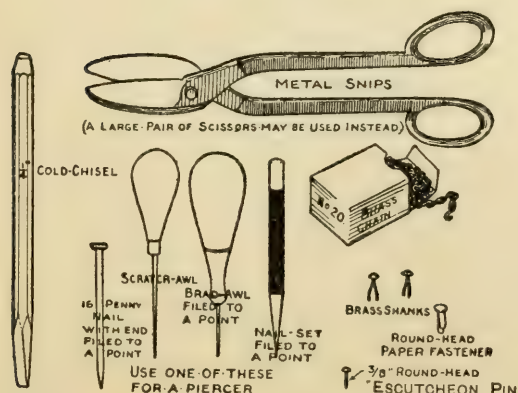

FIG. 278. — Some of the Tools and Materials Required.
Piercing Tool (see Fig. 278)
$\frac{1}{4}$ " Cold-chisel (see Fig. 278)
$\frac{3}{8}$ " Round-head Escutcheon Pins (Fig. 278)
Brass Shanks or Paper Fasteners (Fig. 278)
Box of No. 20 Brass Chain (or Bead Fringe) (Fig. 278)
basswood for the disk. Make it  $5\frac{1}{16}$  inches in diameter, cut it out with a compass-saw or other fine saw, and smooth the edges with a wood-file or chisel; then sand-paper it. Cut a strip of brass of the proper width and length to form a metal band for the edge of the base, and tack it to the edge with *escutcheon pins* (Fig. 278), spacing them about  $\frac{3}{4}$  inch apart.
the other. Fasten the end edges with brass shanks, paper fasteners, or escutcheon pins (Fig. 278), bending the ends over upon the inside. If you use the pins, cut them off short and clinch them upon the inside by placing them on the head of a hatchet and hammering the heads with a hammer.
**Chain Fringe** is cheaper and more interesting to put on than the bead fringe frequently used upon brass shades. Figure 278 shows the size which should be bought. Cut this up into 3-inch lengths and fasten the pieces to the lower edge of the shade about  $\frac{3}{16}$  inch from center to center, hooking the opened link on the end of each piece of chain through a hole punched through the brass, and then pinching it closed.